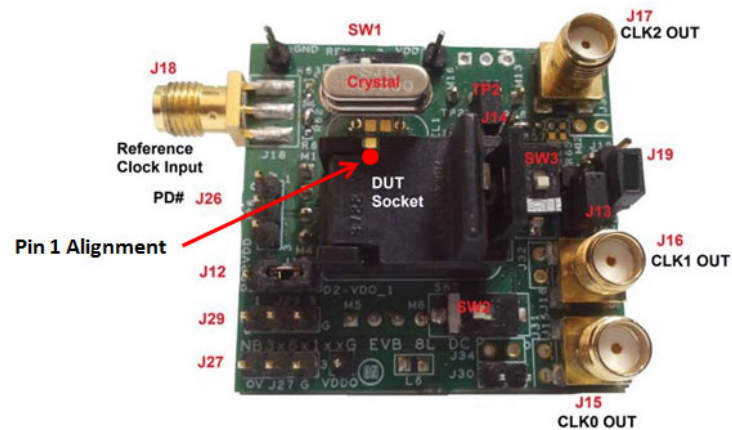

Figure 4. DFN8 Daughter Board
4. Place NB3H60113G or NB3V60113G in DUT socket U2. For device pin 1 alignment refer to Figure 4.